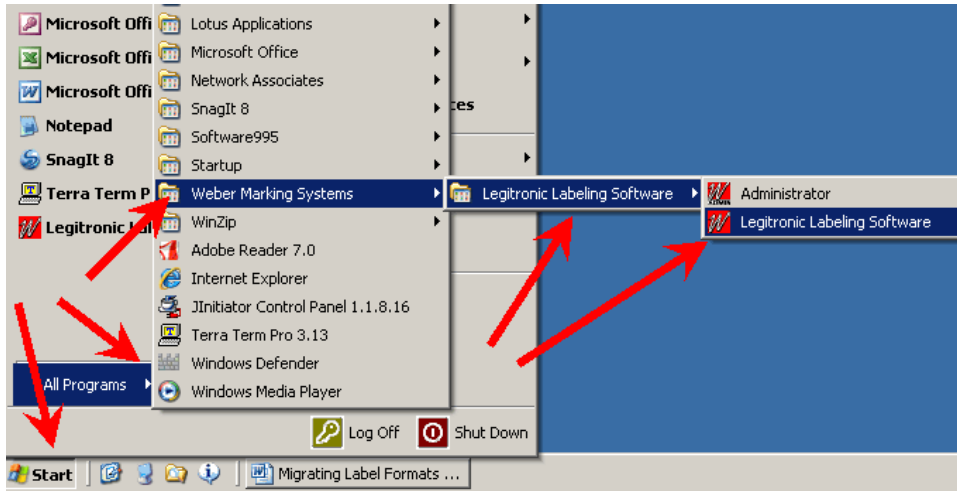

Figure 4-1
4.1.1. Click *Start > All Programs > Weber Marking Systems > Legitronic Labeling Software > Legitronic Labeling Software* (Figure 4-1)